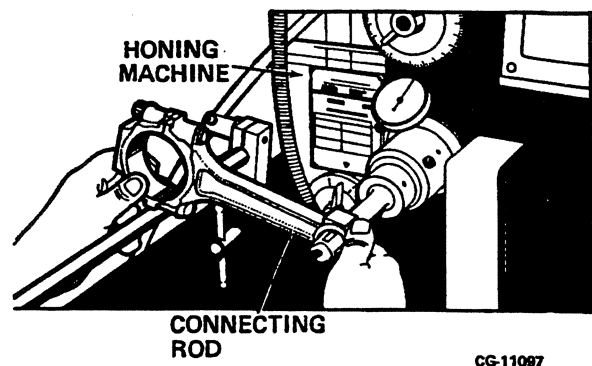

**Figure 5.31. Using ZTSE-4154 Tool to Install New Connecting Rod Bushing**
a. Place the new bushing (4, **Figure 5.31**) on the remover/installer tool ZTSE-4154 (3, **Figure 5.31**) and lubricate the bushing O.D. with clean engine oil.
b. Place the connecting rod on a flat surface plate with the "large" chamfer side up (1, **Figure 5.31**)